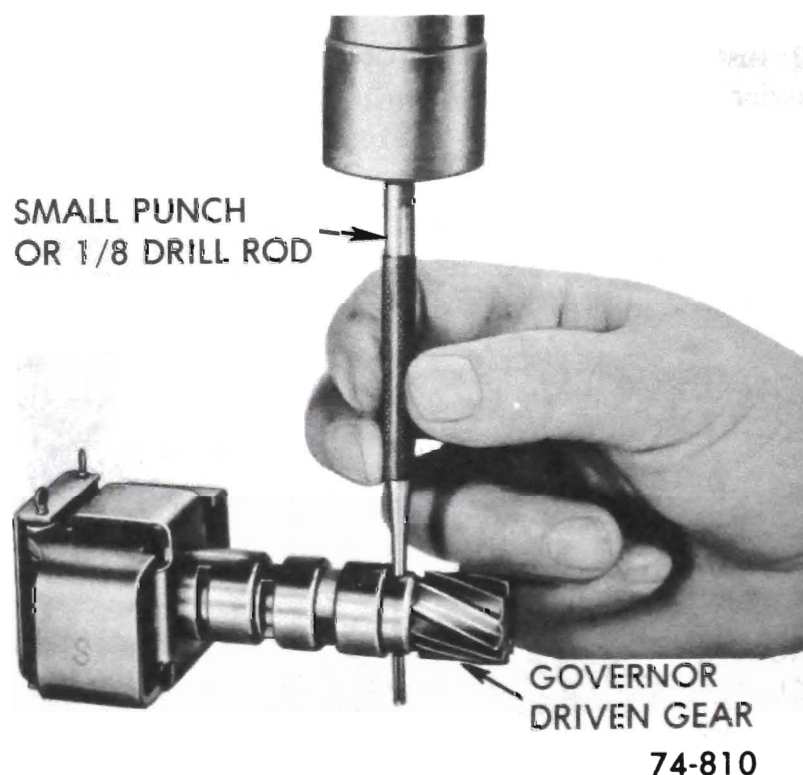

Figure 76-144
1. Drive out governor gear retaining split pin using small punch or 1/8" drill rod. See Figure 76-144.